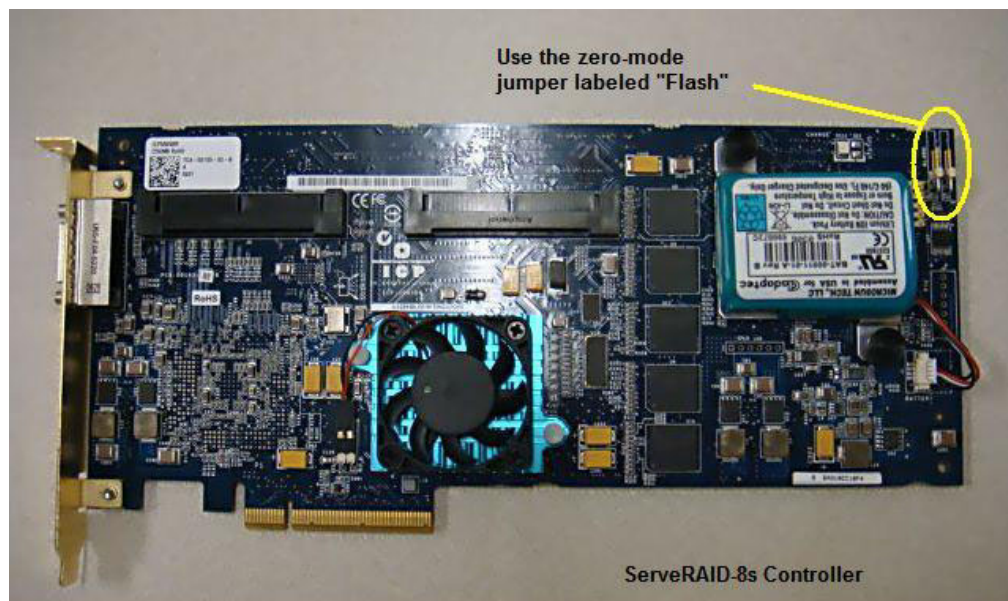

Figure 2. ServeRAID-8s zero-mode flash jumper
5. Locate the flash jumper, which is labeled on the upper right hand corner of the controller as shown in Figure 2.
6. Install the jumper connector across the two pins that are shown in Figure 2 on page 13.